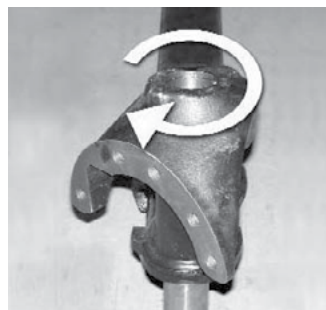

Figure 37.
9. Check for the proper fit by rotating the knuckle assembly back and forth to verify there is no binding on the kingpin. (See Figures 37 and 38)